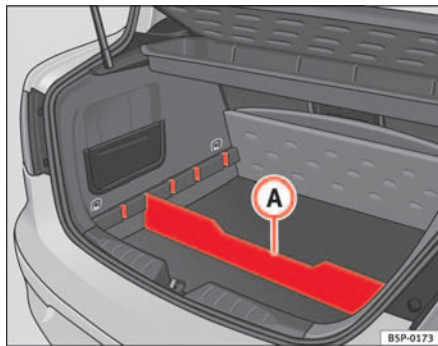

Fig. 104 Luggage compartment divider
- Fit the separator **A** ⇒ fig. 104, into the side grooves depending on the size of the objects to be transported. The onboard tool kit and the spare wheel are located underneath the luggage compartment.